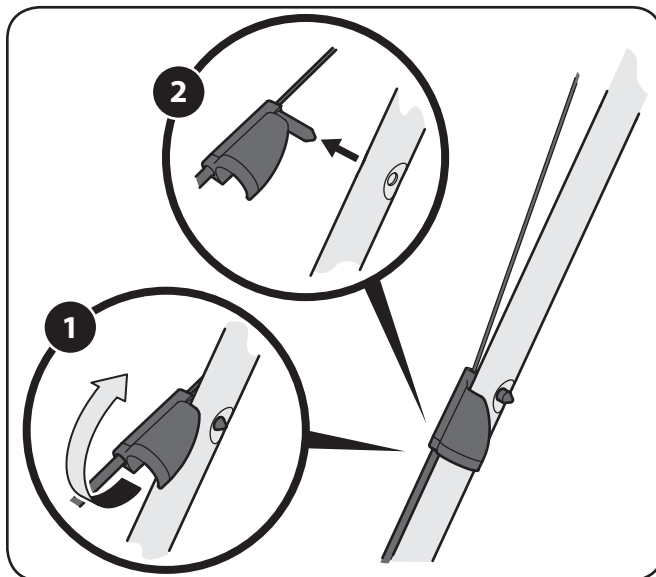

Figure 6-3
1. Rotate the drive cable fitting located on the left upper handle upward. See Figure 6-3.